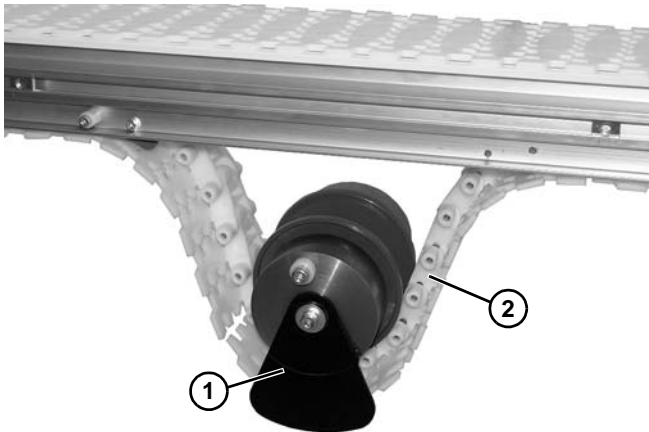

Figure 156
11. Install idler pulley assembly (**Figure 156, item 1**) onto conveyor in belt loop (**Figure 156, item 2**).